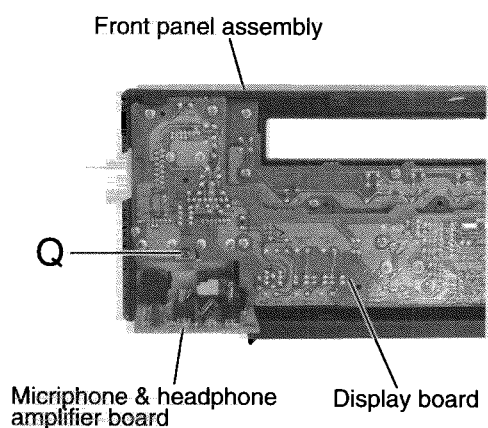

Fig.22
■ **Removing the microphone & headphone amplifier board (See Fig.22 to 24)**